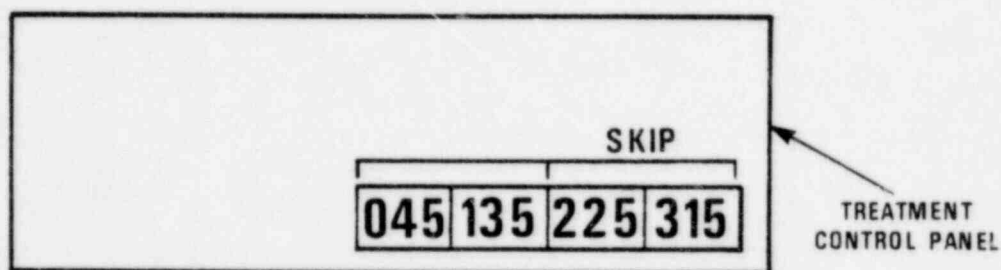

Fig. 4.3a
1. Adjust angle selectors to limits of treatment sectors; e.g., 045°, 135° and 225°, 315°. See Fig. 4.3a.